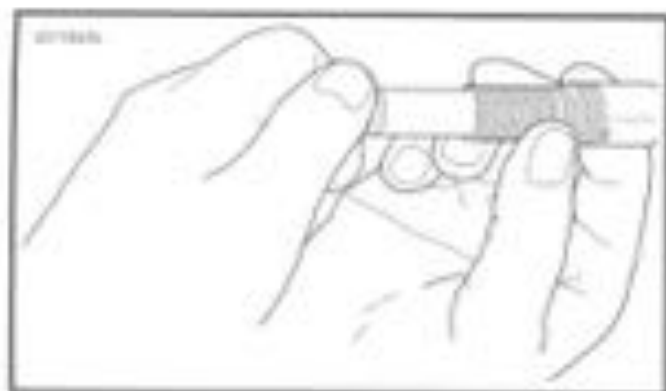

Figure 2-70
- b. See Figure 2-70. Holding thumb on detent spring and ball, back out (turn counter-clockwise) rebound adjuster to last "click." Turn down (clockwise) 13 "clicks."